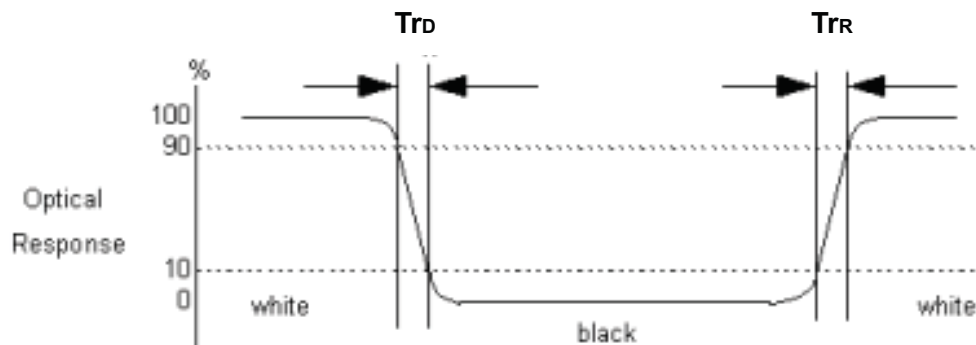

Fig.4-3 Response time
4. Response time is the time required for the display to transition from white(L_{255}) to black(L_0) (Decay Time, $Tr_D = T_f$) and from black(L_0) to white(L_{255}) (Rise Time, $Tr_R = Tr$). For additional information see FIG4-3.